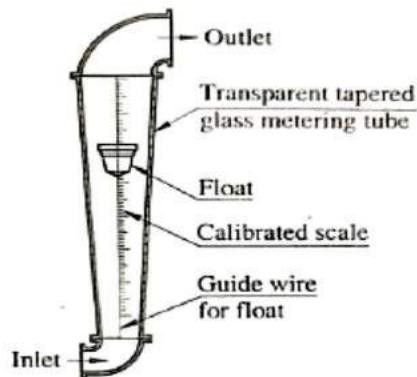

Fig. 5.6 Rotameter
- A rotameter is a discharge measuring device as shown in fig. 5.6. The rotameter is installed in a vertical pipe and measure the discharge directly without any calculation.